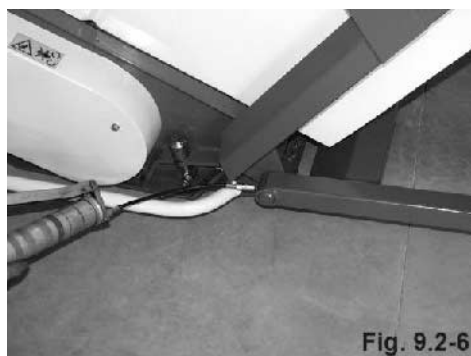

Fig. 9.2-6
- Transport frame pivot point (Fig. 9.2-6)